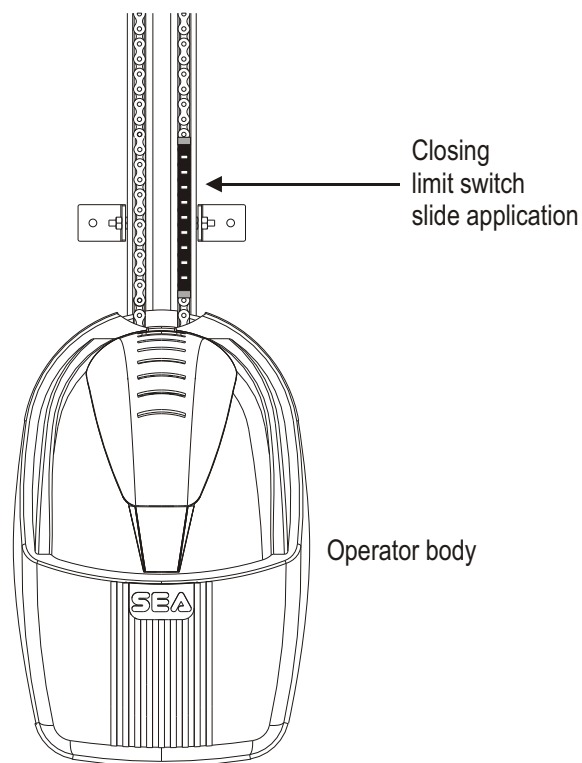

Fig. 21b
- fix the limit switch slide (Fig. 20) as near as possible to the operator body near the switch wheel as shown in Fig. 21b